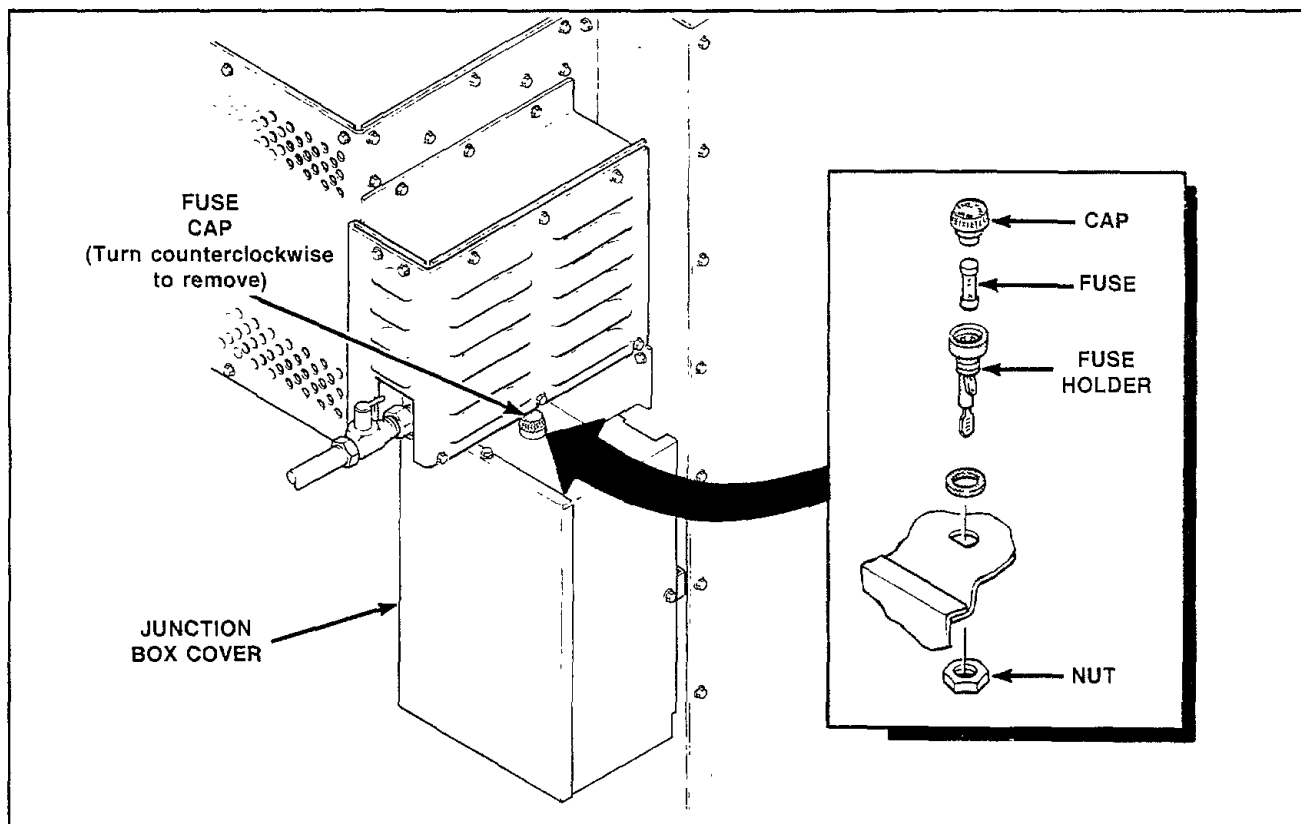

Figure 11
- Turn fuse cap counterclockwise to remove fuse, *Figure 11.*
- Remove junction box cover, *Figure 11.*